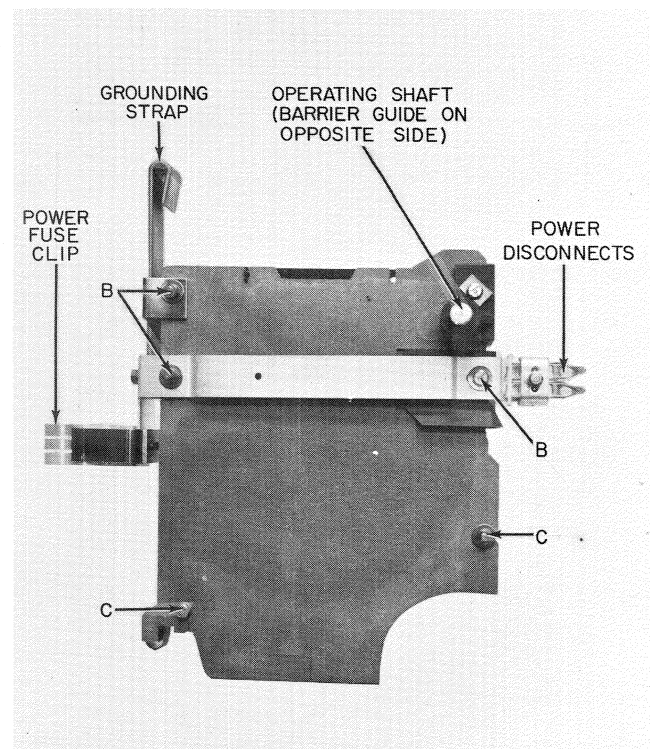

Fig. 20. Arc chute assembly with power fuse clip, grounding bar and power disconnects
The arc chutes on this contactor are a unit that has mounted to it power fuse clips, grounding-strap and power disconnects (see Fig. 20).
1. Remove operating shaft and interphase barrier guide (see Fig. 20). Since these parts are pinned to the chute, care should be taken to insure that parts are not damaged during removal.